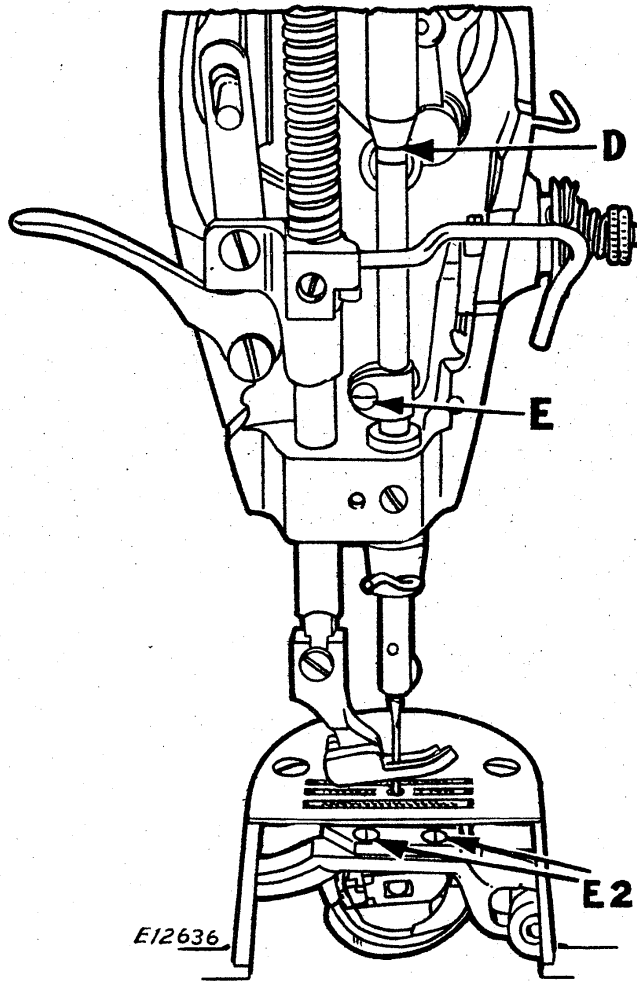

Fig.20
The needle bar, which is in the machine when shipped from the factory, has two timing marks near its upper end. Rotate the balance wheel until the needle bar moves down to its lowest position. The UPPER TIMING MARK on the needle bar should then be centered with the lower end of the needle bar bushing, as shown at (D) in Fig. 20. In case the needle bar is not set at the correct height, loosen screw (E, Fig. 20) and move the needle bar up or down until the UPPER TIMING MARK is centered with the lower end of the needle bar bushing, as shown at (D, Fig. 20), then securely tighten screw (E).
Remove presser foot, slide plate, throat plate and bobbin case. Take out the two screws (E2, Fig. 20) and remove feed dog.